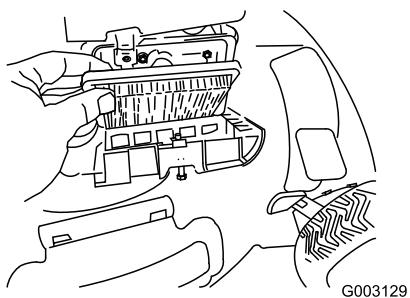

Figure 45
4. Install the cover (Figure 45).